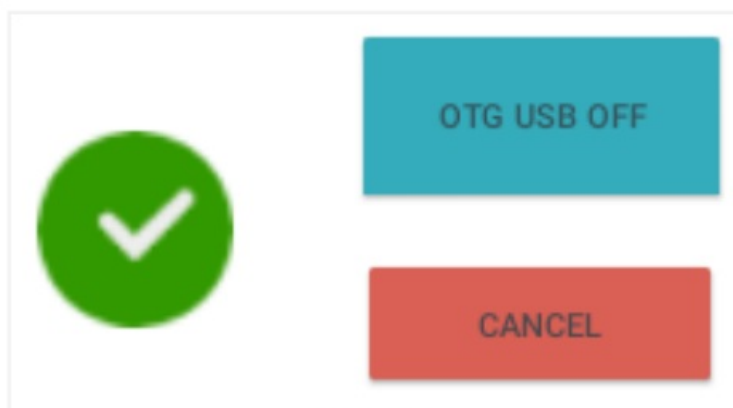

Fig. 28
3. To disable the “OTG USB” function, tap “OTG USB OFF” in the status window (Fig. 28).